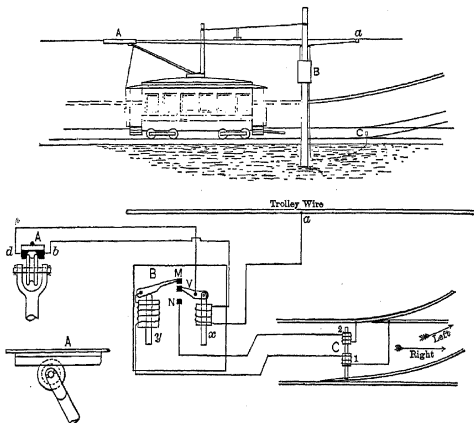

FIG. 154. Illustration and diagram of an electric track switch.
82. Electric Track Switches. In Fig. 154 is shown the Cheatham track switch. It consists primarily of three elements: the pan, A , attached to the trolley wire about 30 feet from the switch; the pole box, B , containing the electromagnet (x) which makes the proper electric contact; and the track box, C , containing the electromagnets (1) and (2), which operate the track switch.